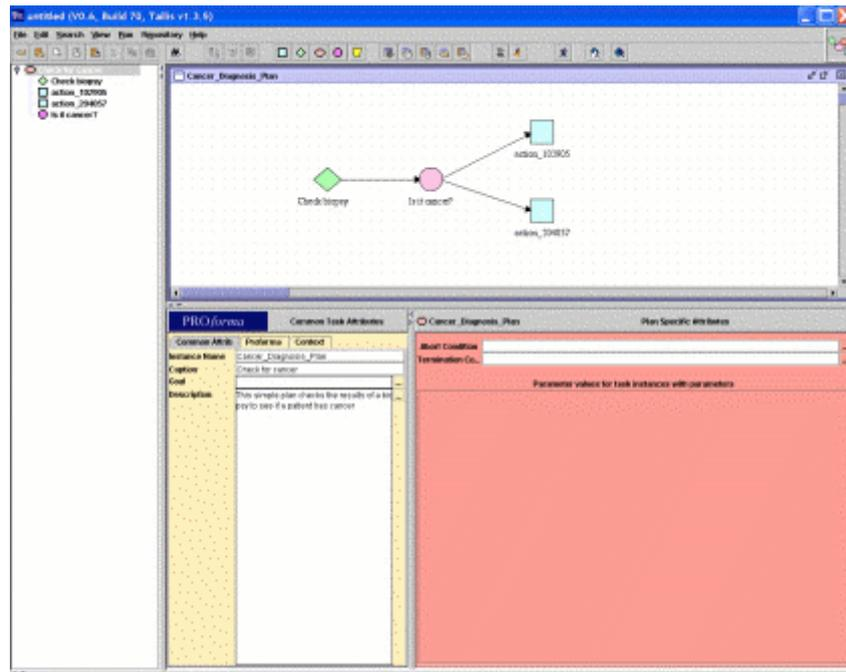

Figure 13: Scheduling constraints have been added to the four tasks
- We will now add some scheduling constraints to the top-level plan. Move your mouse over the enquiry task; yellow squares should appear on each side of the task. Click on one and drag over the decision task. Release the mouse-button when over one of the decision's yellow squares, and a scheduling constraint is created. Repeat the process from the decision to each of the action tasks (see Figure 13)